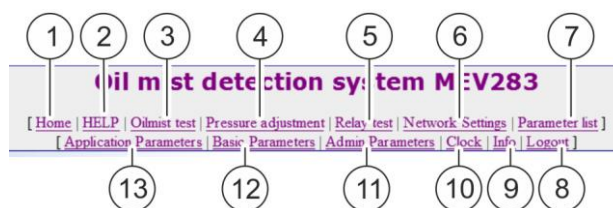

Fig. 38: Menu bar
1. Click on “Clock” (Fig. 38/10) in the menu bar.